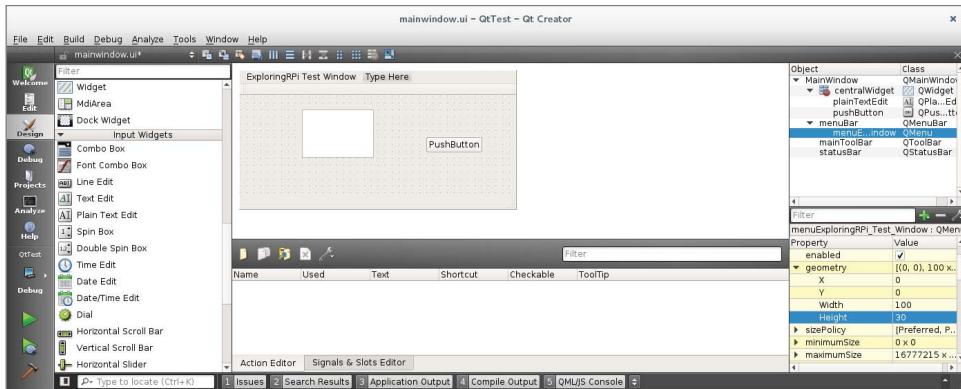

Figure 14-8: Qt Creator IDE visual design editor running directly on the RPi (via VNC)
The Qt framework also has associated development tools. As well as the qmake tool, there is a full-featured IDE called Qt Creator, which is similar in nature to Eclipse, except that it is specifically tailored for Qt development. The IDE, which is illustrated in Figure 14-8, is available for Linux, Windows, and Mac OS X, and can execute on the RPi directly. Qt Creator can be used to build native applications, or it can be used to cross-compile applications for the RPi, by installing a cross-platform toolchain (similar to Eclipse in Chapter 7). To install and execute Qt Creator on the RPi (e.g., via VNC) use the following steps, whereupon the IDE appears as in Figure 14-8.
One of the key features that Qt Creator provides is its visual design editor, which enables you to interactively drag-and-drop widgets onto window designs, called forms. The interface enables the properties of the widgets to be configured easily, and it provides a straightforward way of enabling signals and associating slots against the UI components. For example, to write code that executes when the pushbutton is clicked (refer to Figure 14-8), you can simply right-click the button and choose “Go to slot,” which provides a dialog with a list of available signals (such as `clicked()`, `pressed()`, and `released()`).⁴ Once a signal is chosen, the IDE will automatically enable the signal, provide a slot code template, and associate the signal with the slot. The form UI’s properties are stored in an XML file and associated with the project (e.g., `mainwindow.ui`).
- Select the Desktop kit and choose the default class information. This results in a new project being created within Qt Creator, which appears as in Figure 14-8 when you double click the `mainwindow.ui` form entry.
- In this window view, add a Push Button and a Text Edit (`QTextEdit`) component, as illustrated in Figure 14-8.